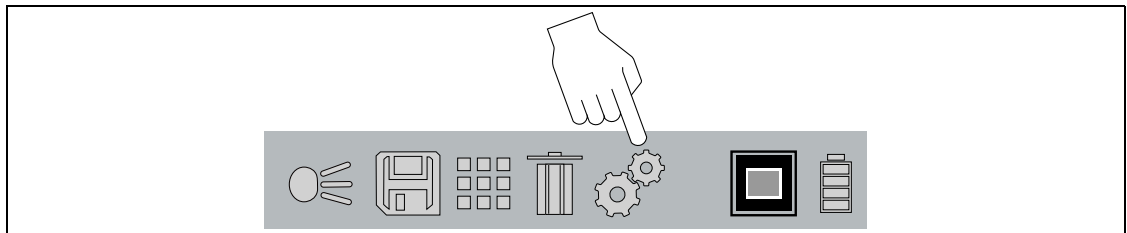

Figure 5-1
1. Use the **LEFT** ◀ / **RIGHT** ▶ control buttons to highlight the **Settings** icon from the toolbar (Figure 5-1). Press the **Y** button to select it.